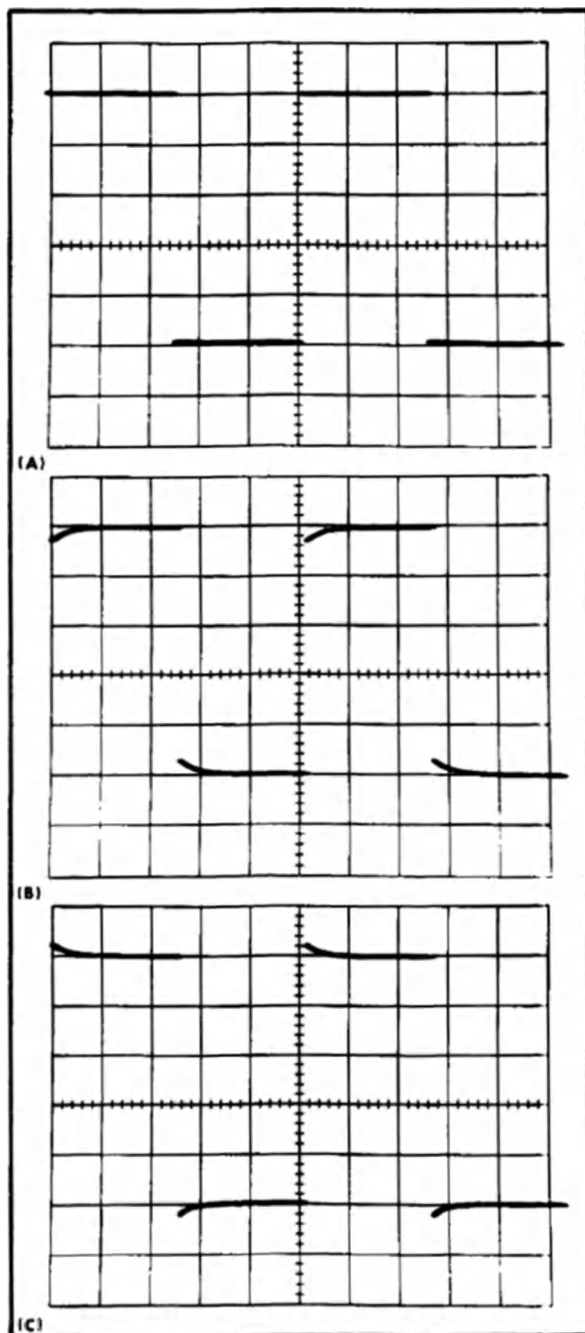

Fig. 5-5. (A) Typical CRT display showing correct input capacitance adjustment; (B) and (C) incorrect.
h. CHECK—CRT display for less than 0.05 division overshoot or rounding (matched within 1%; see Fig. 5-5).